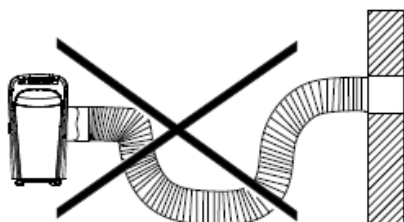

Fig.22
**DO NOT OVER BEND THE DUCT (SEE Fig.22)**